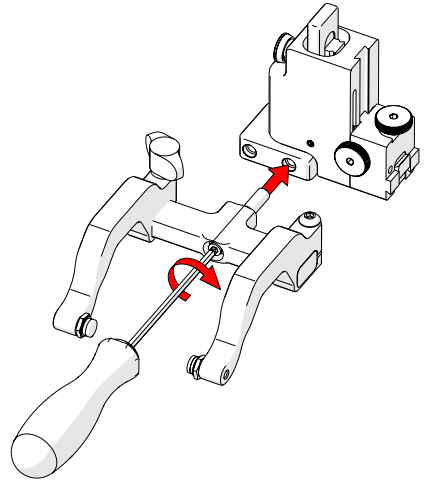

Fig. 123 - Screw into threaded hole
7. Screw the yoke to the probe holder (Fig. 123).